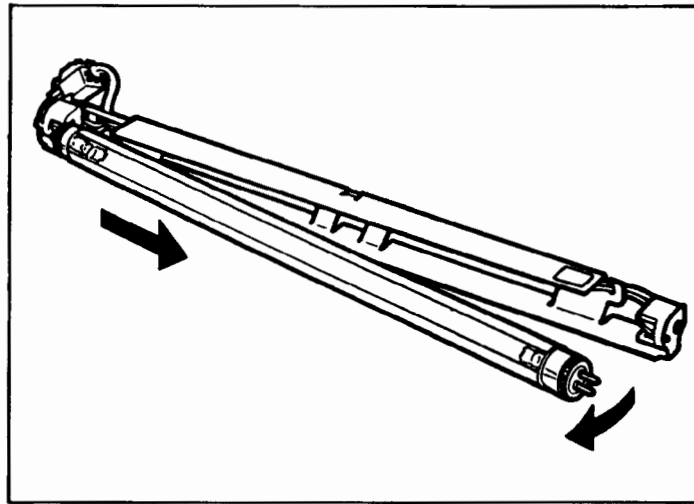

Figure C-12. Removing the Used Lamp
11. Remove the used lamp from the lamp holder. See figure C-12.